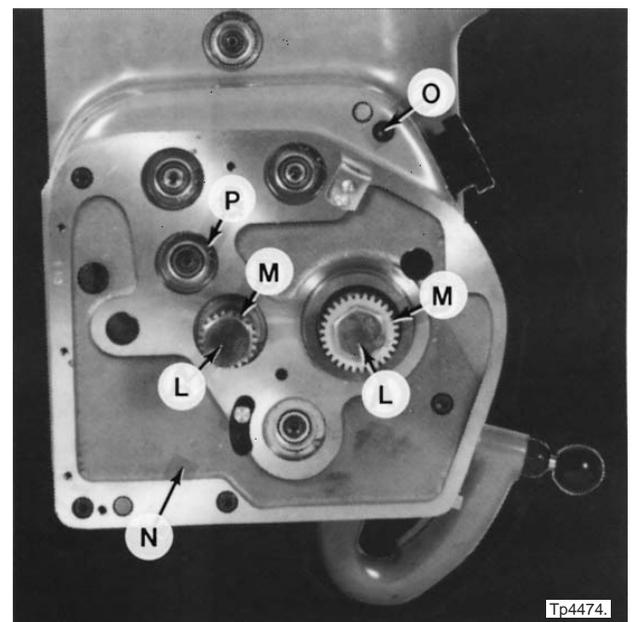
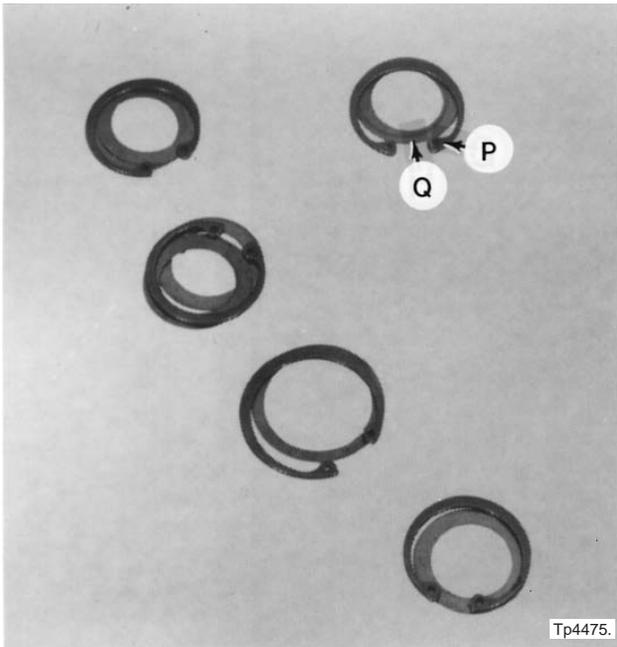

Figure 4.18 - Gearbox Assembly
Figure 4.19 - Shim and Snap Ring Layout
7. If clearance is insufficient for gears "M", Figure 4.18, to pass through cover "N", remove studs "L" and gears "M".
Label snap rings "P", Figure 4.18, and their associated spacers for identification for proper reassembly of the gearbox. Refer also to Figure 4.19 .
8. Remove five snap rings "P", Figure 4.18, and their associated spacers.